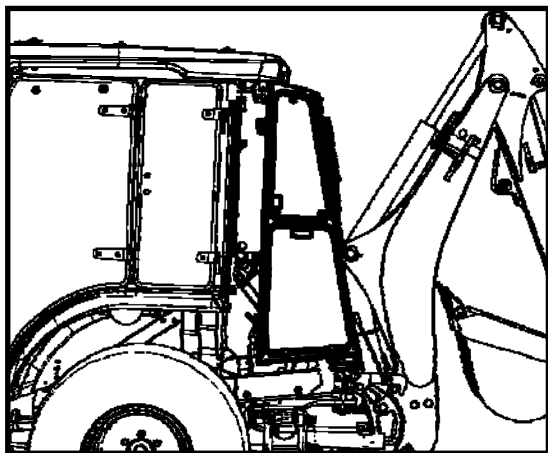

Figure 18.4: Drop On Backhoe Cab
- 18.4 With assistance, place the backhoe cab on to the backhoe cab footers (see Figure 18.4, outriggers hidden for clarity).